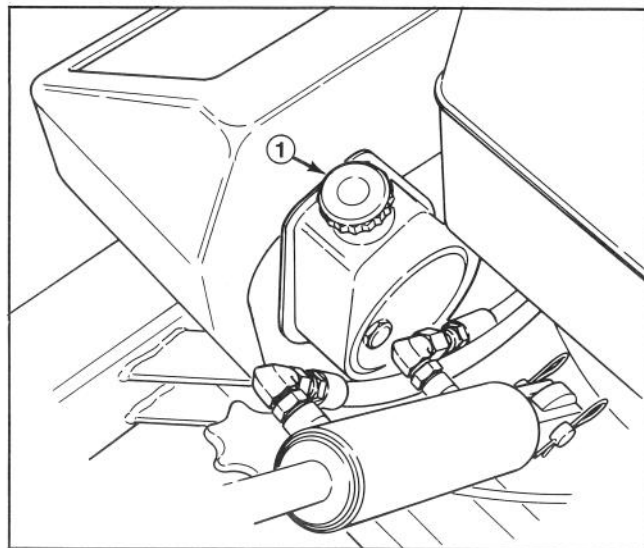

Figure 34
2. Position a drain pan under chassis below pump assembly (Fig. 34).